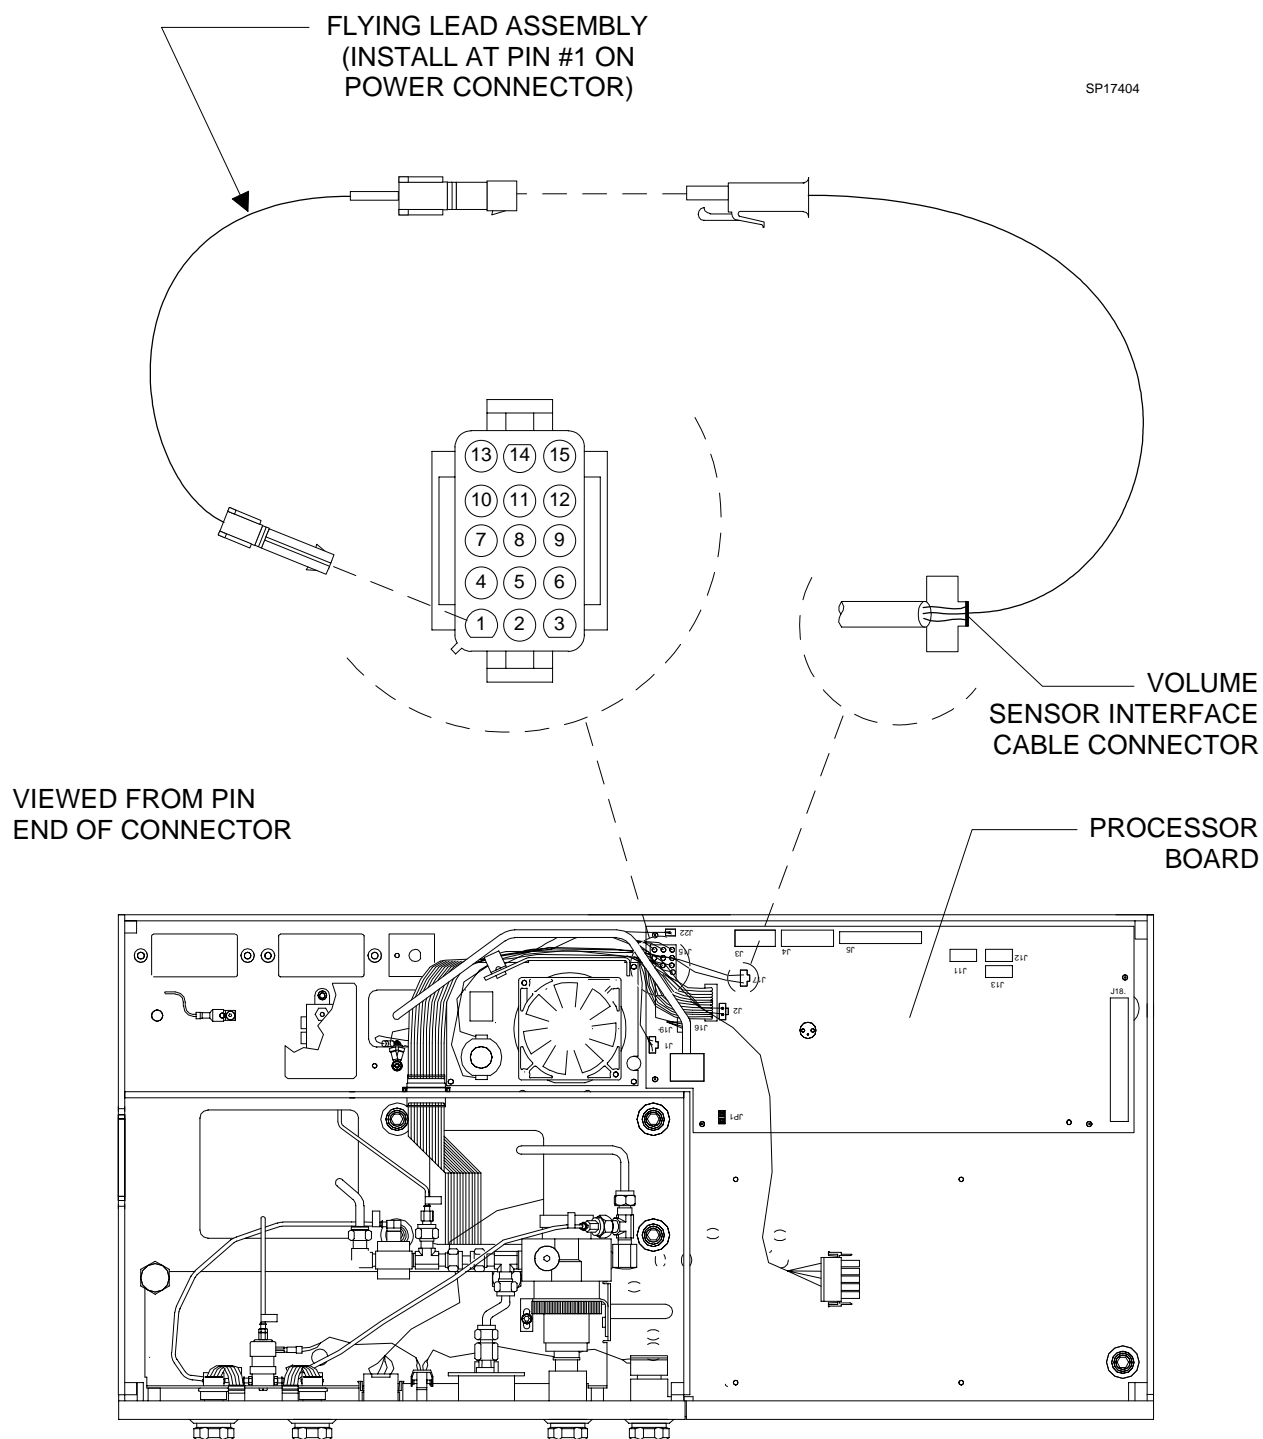

Figure 4. Power Connection - Flying Lead Installation
13. Disconnect the power supply wire harness from J15 on the processor board. Install the pin end of the new flying lead assembly into the unused hole location for Pin #1 on the connector. See Figure 4. Press the pin into the connector until it locks in place.